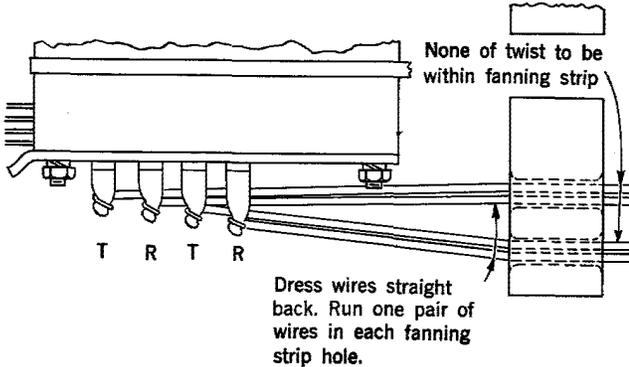

Fig. 5 – Termination of Wire on 444-type Jacks at MDF
8.07 To terminate a wire on a 444-type jack, pass the wire through the proper hole in the fanning strip, as shown in Fig. 5. Bring the wire under the terminal, up through the notch, across the top of the terminal, and down through the back notch as shown in Fig. 6. Cut or break the excess wire at point "X".